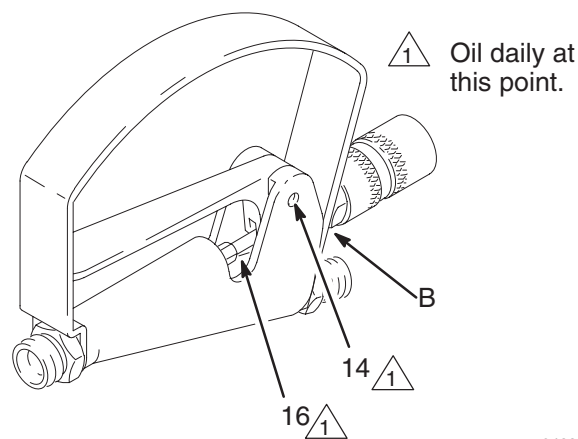

Fig. 5
Turn the hex part of the trigger safety (B) in or out to adjust the trigger tension. See Fig 5.
Oil the exposed part of the valve rod (16) and trigger pivot (14) daily. See Fig. 5. Whenever you clean the gun, remove the tension adjusting screw (3), and pull out the valve rod. See Fig. 6, page 7. Clean and oil the exposed part of the valve rod all the way back to the packing screw (20).
2. Check the free play of the trigger. Lift the trigger (21) with a finger; it should move 1/8 to 5/16 inch (3.2 to 7.9 mm). See Fig. 5. If not, adjust as described below.
3. Grasp the hex (C) of the safety knob (35) with an 11/16 inch open end wrench and unscrew the knob assembly from the gun body.